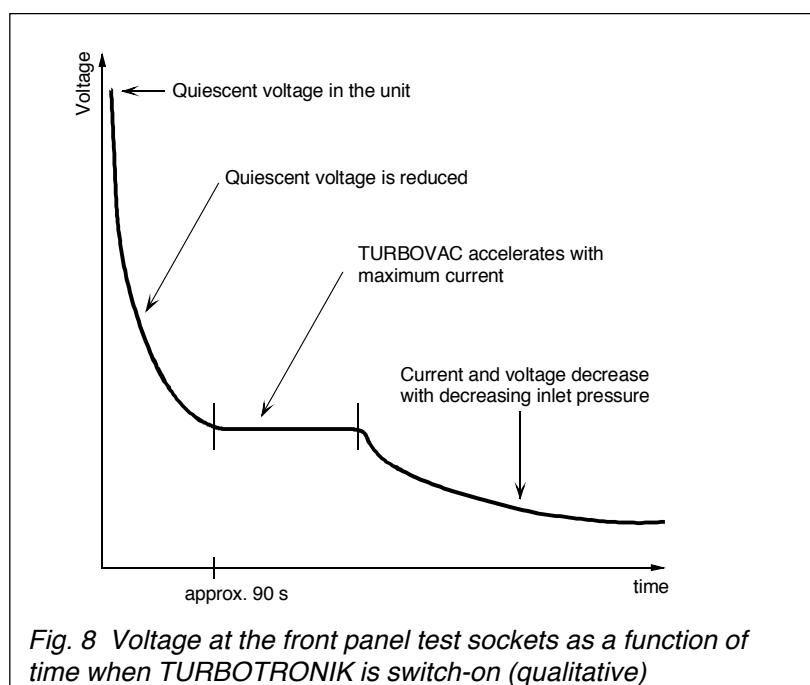

Fig. 8 Voltage at the front panel test sockets as a function of time when TURBOTRONIK is switch-on (qualitative)
4.3.1 Connecting the relay contacts (also refer to Fig. 8)
A voltage is available at the front panel test sockets, which is proportional to the DC link current in the TURBOTRONIK ($1 \text{ mV} = 1 \text{ mA}$). For specific operating statuses, this current can be assigned a particular inlet pressure; *also refer to Fig. 8*.